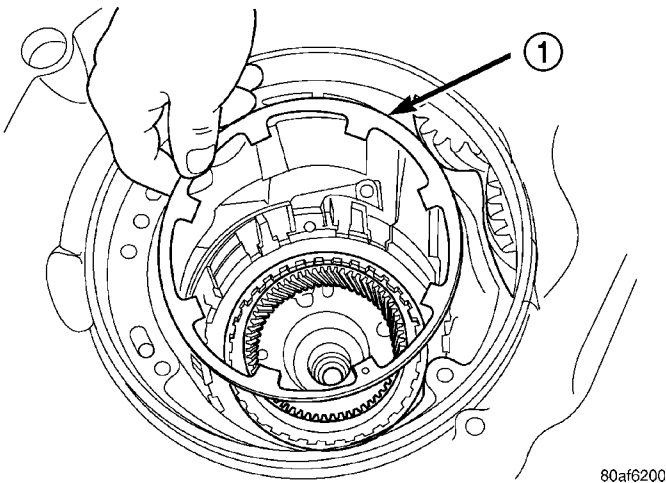

Fig. 43 Remove 2/4 Clutch Return Spring
(28) Remove 2/4 clutch return spring (Fig. 43).